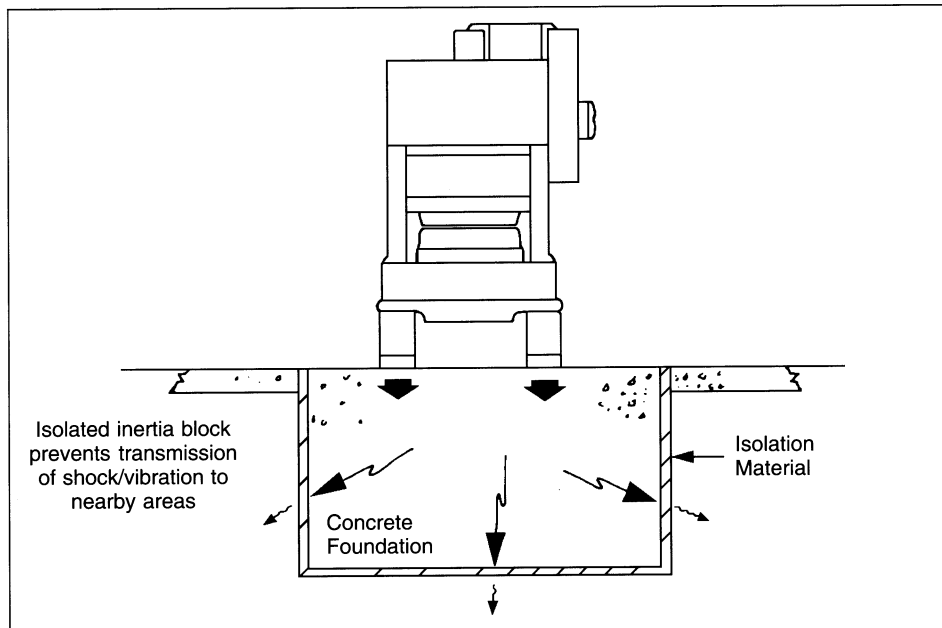

Figure 3
**3. Slide inertia forces** result from acceleration forces acting on the slide and are an extremely important consideration in the design of a press mounting system. They act primarily in the direction of slide travel and tend to alternately lift the press from its supporting surface and push it back into its supporting surface. In some high speed presses it is possible for these forces to exceed the dead weight of the press. This condition establishes a limitation as to whether or not a press should be mounted on freestanding mounts. Machines which are manufactured with dynamic balancing equipment do not have this problem, and can safely be mounted on press mounts. Older high speed presses should be securely bolted down, and are good candidates for isolated foundations (see figure 3).